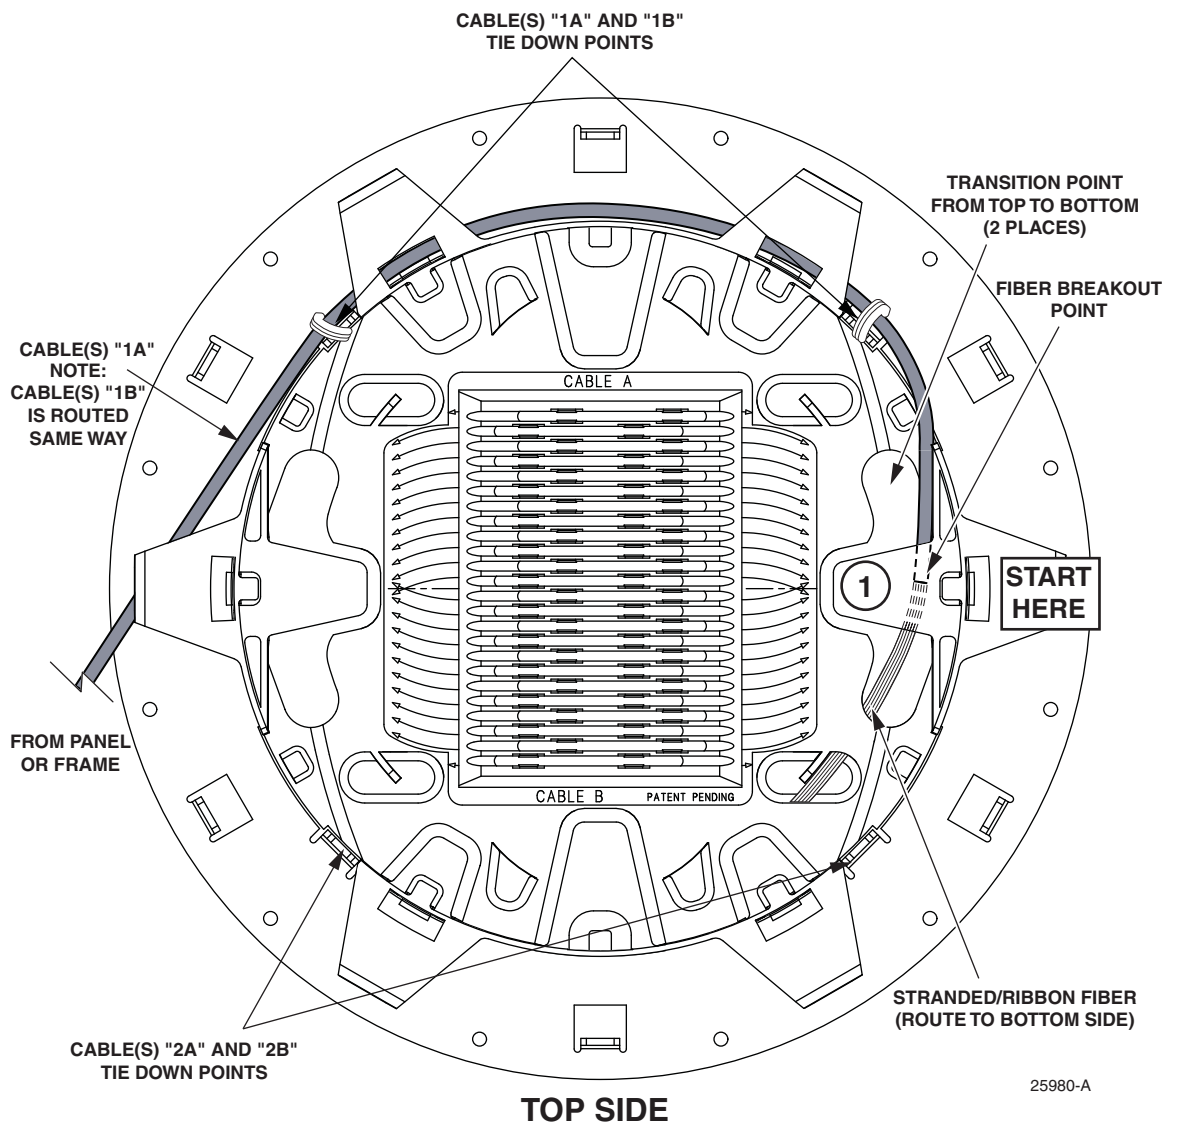
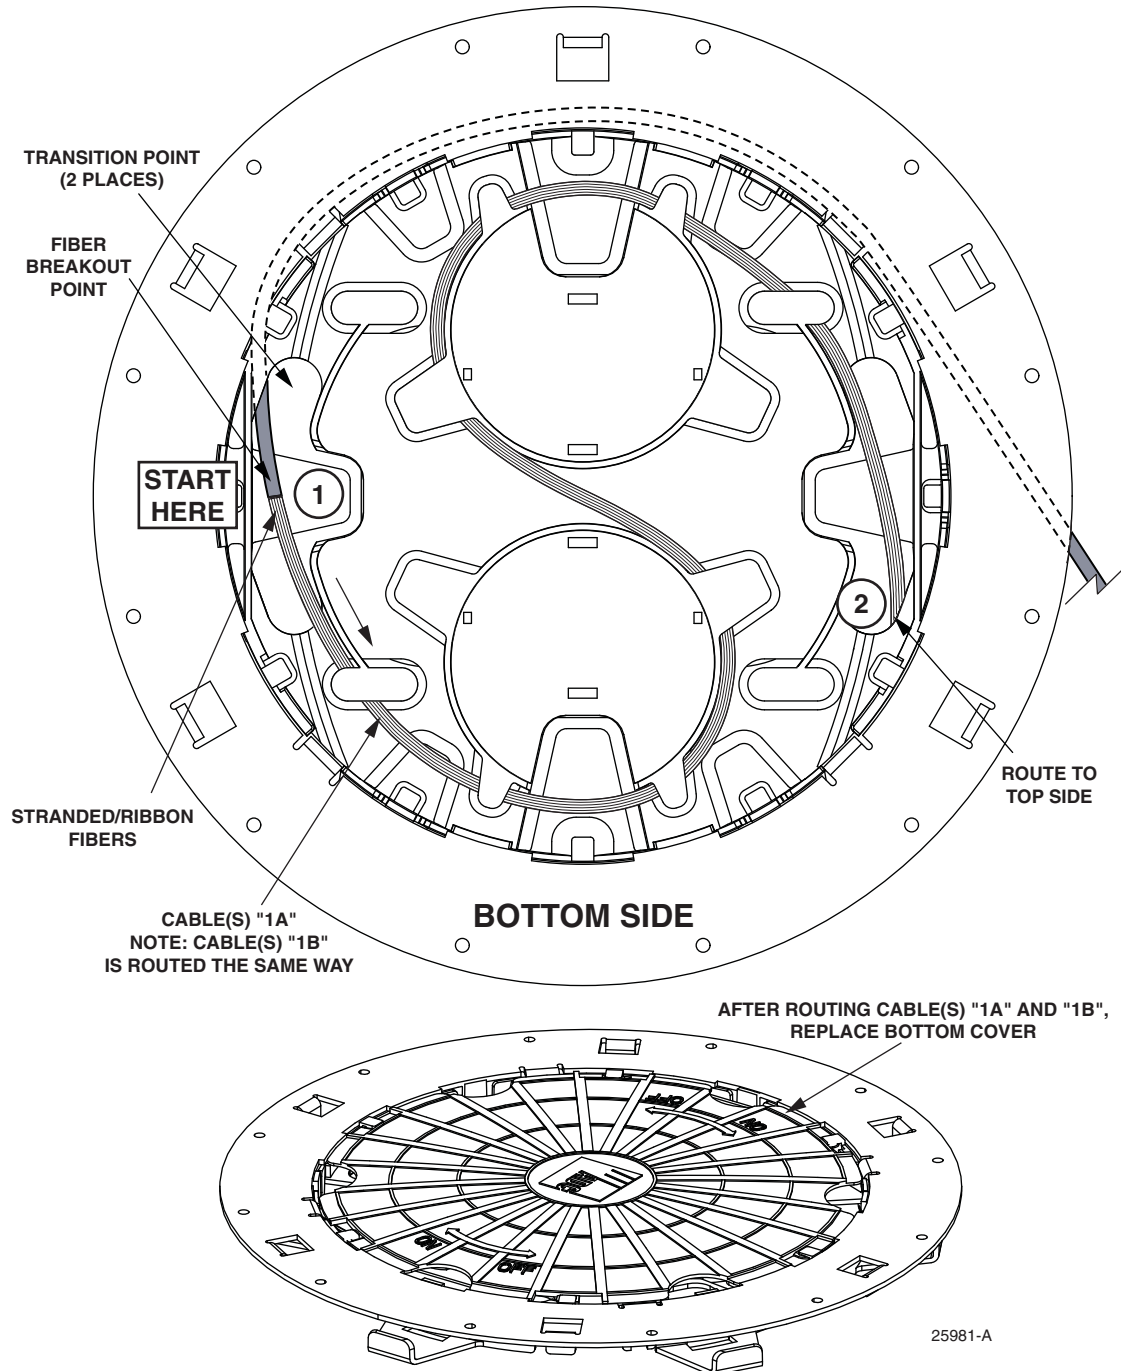
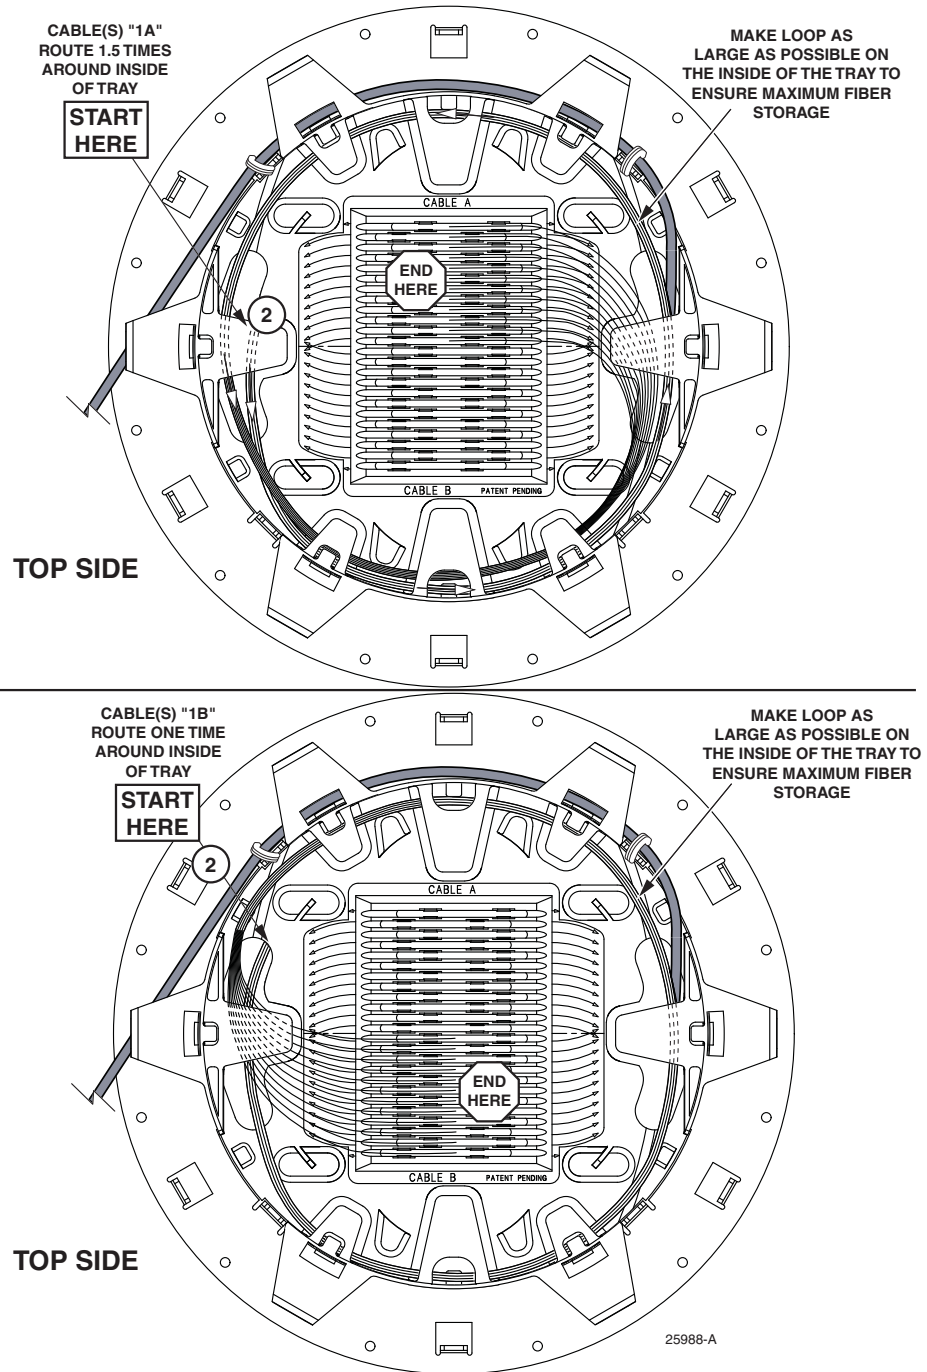

Figure 13. Cable "1A" Routing, Top Side (Clockwise Roll-Up Procedure)
Figure 14. Cable(s) "1A" Routing, Bottom Side (Clockwise Roll-Up Procedure), continued
Figure 15. Cable(s) "1A" (Upper View) and Cable(s) "1B" (Lower View) Clockwise Roll-Up Procedure, continued
1. Route the cable so the fiber breakout is positioned at the transition point from top to bottom (refer to the "circled 1" in Figure 13). Then route and tie down cable(s) "1A" as shown in Figure 13. (Cable(s) "1B", not shown, is routed simultaneously in the same manner.)
► **Note:** The circled numbers shown in Figure 13, Figure 14, and Figure 15 are provided as an orientation aid when flipping the cable over.
2. Flip the tray over and continue routing cable(s) "1A" and "1B" around the spools and back to the top side, as shown in Figure 14. After routing cable(s) "1A" and cable(s) "1B" on bottom side, replace bottom cover.
3. Flip the tray over to the top side and route cable(s) "1A" and cable(s) "1B" to the splice tray area as shown in Figure 15. Route cable(s) "1A" 1.5 times (cable(s) "1B" one time) around the inside of the tray making the loop as large as possible to ensure maximum fiber storage.